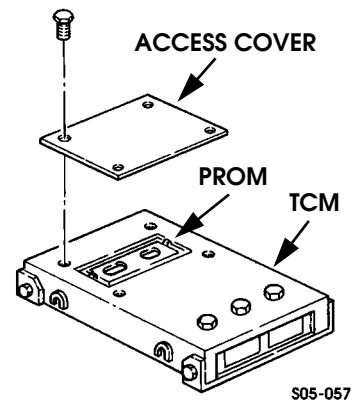

Figure 5-61: PROM Access Cover Attachment
2. Remove PROM access cover screws from TCM (Figure 5-61).